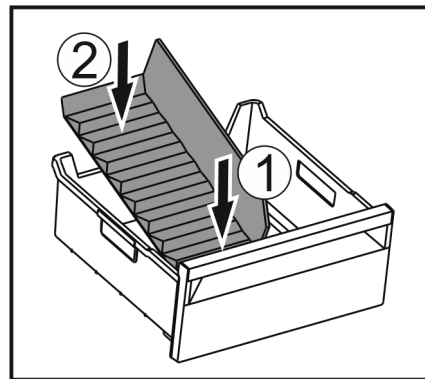

Fig. 47
- ▶ Insert the front part of the ice compartment divider. Fig. 47 (1)
- ▶ Lower the rear part of the ice compartment divider to the drawer bottom. Fig. 47 (2)